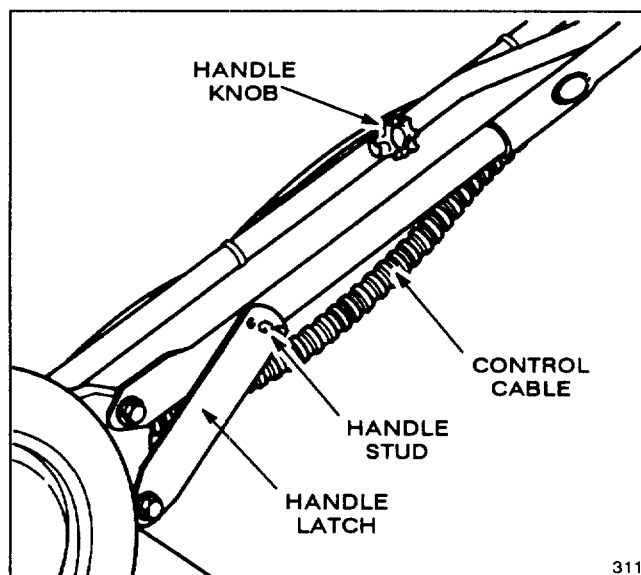

Figure 1
1. Align handles and tighten handle knobs (Fig. 1). Bend handle latches (Fig. 1) slightly outward so they will not be in the way when pivoting the handle backward into the operating position.
2. Pivot handle backward. Bend handle latches inward while snapping handle stud into center hole of handle latch (Fig. 1).